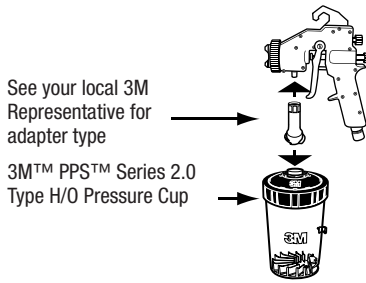
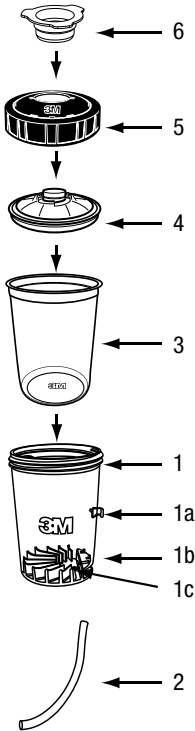

Figure 1
Figure 2
- **Requires the use of a 3M™ PPS™ Series 2.0 spray gun adapter (sold separately) to attach the 3M™ PPS™ Series 2.0 Type H/O Pressure Cup to the spray gun. Reference Figure 1.**
- **Use Only Genuine 3M Parts and Accessories. Reference Figure 2 Component Listing. Setup Sequence:**
3. Align the opening on the Retaining Collar Shroud Assembly (6) with the 3M™ PPS™ Series 2.0 H/O Lid and screw the Retaining Collar clockwise onto the 3M™ PPS™ Series 2.0 Type H/O Pressure Cup (1) and hand-tighten.
4. If the material will not be sprayed immediately, a 3M™ PPS™ Series 2.0 Plug (7) can be inserted into the lid spout to seal contents.
5. When ready to spray the contents, remove 3M™ PPS™ Series 2.0 Plug (7) if used, and connect the spray gun with the previously installed 3M™ PPS™ Series 2.0 Adapter to the 3M™ PPS™ Series 2.0 Type H/O Pressure Cup. Reference Figure 1.
6. Attach the cup pressure hose (2) from the spray gun to the pressure port (1b) on the 3M™ PPS™ Series 2.0 Type H/O Pressure Cup. The hose clip on the cup (1a) may be used to hold the hose securely in place while spraying, hose clip included in 3M™ PPS™ Series 2.0 Type H/O Pressure Cup (Large) only.